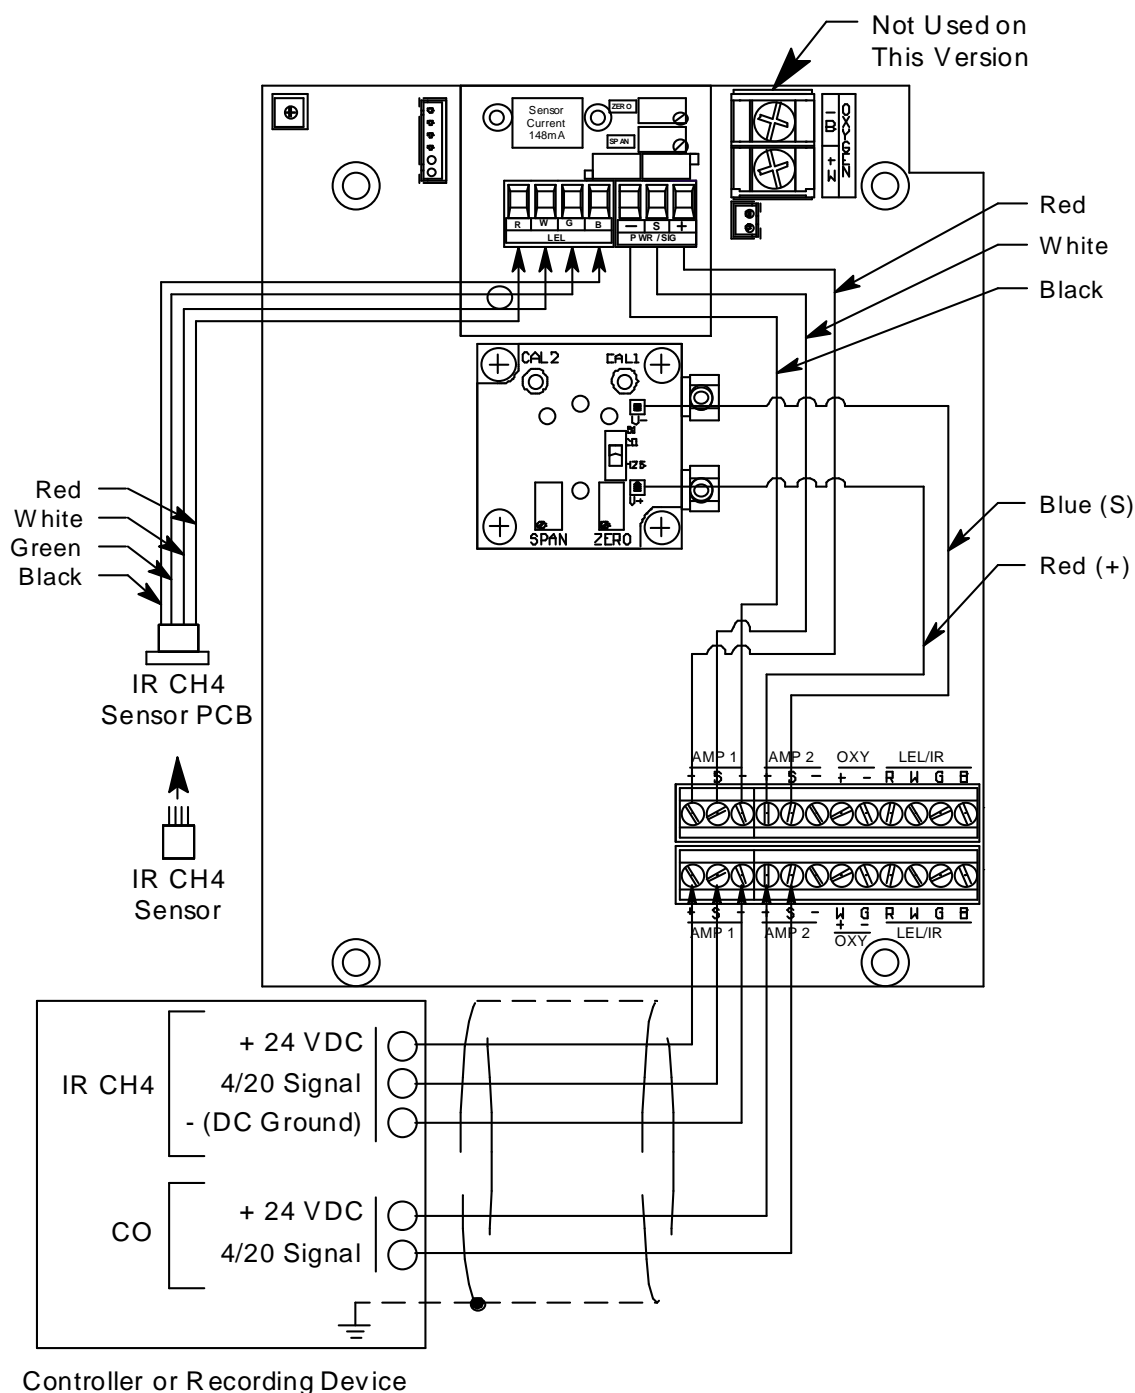

Figure 6: Wiring the Sample-Draw Detector to a Controller
5. Connect the cable to the sample-draw detector’s interconnect terminal strip as shown in Figure 6.
8. Connect the wires to the applicable detector/transmitter terminal strip at the controller as shown in Figure 6. Refer to the controller operator's manual and the controller detector head specification sheet for the 35-3001A-08-03 for detector/terminal strip connections specific to the controller.